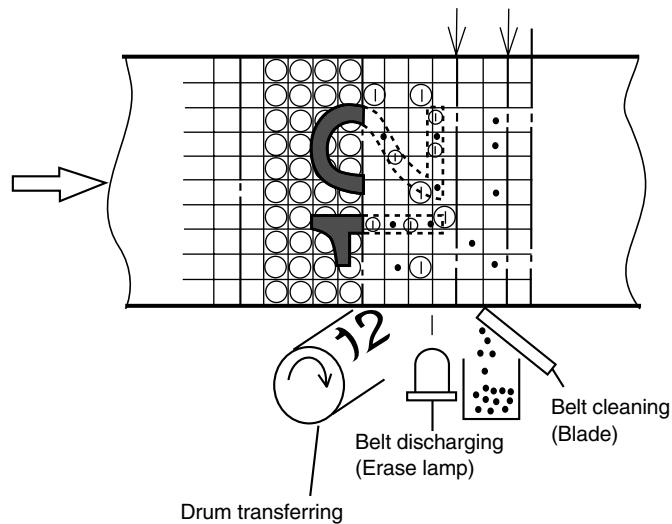

Fig. 4-19
- (2) Process of Discharging (Refer to Fig.4-19.)